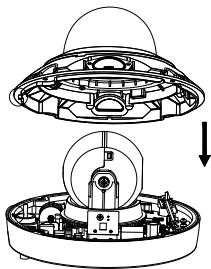

Figure 2-3 Install the Bubble
4. Align the bubble with the camera base, and install the bubble back. Fix the bubble with four M4×10 screws, as shown in Figure 2-3.